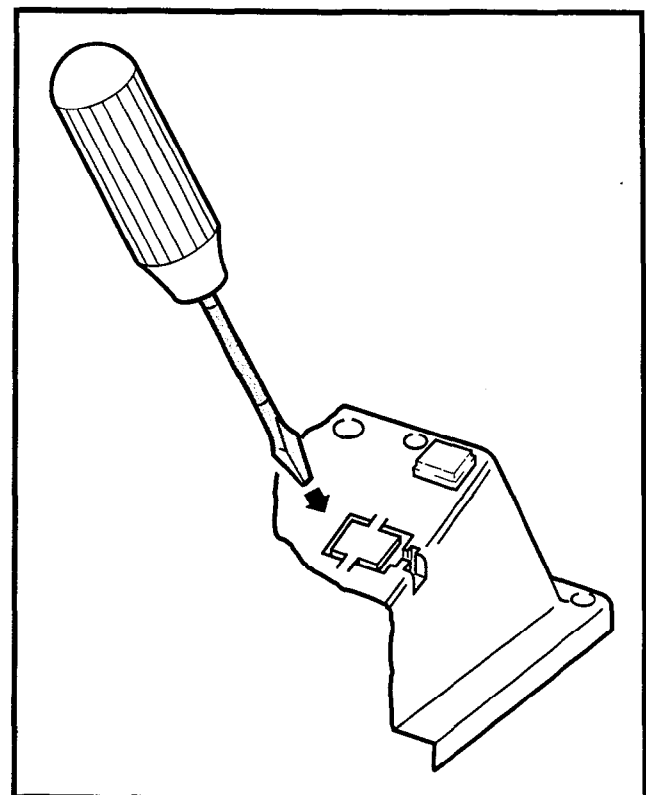

FIGURE 4-31—REMOVAL OF HHEU MODULAR CONNECTOR ACCESS TAB
5.43 Using a screwdriver or other suitable tool, remove the plastic access tab located on the back of the mounting base (Figure 4-31). The HHEU modular connector is accessed through this opening.